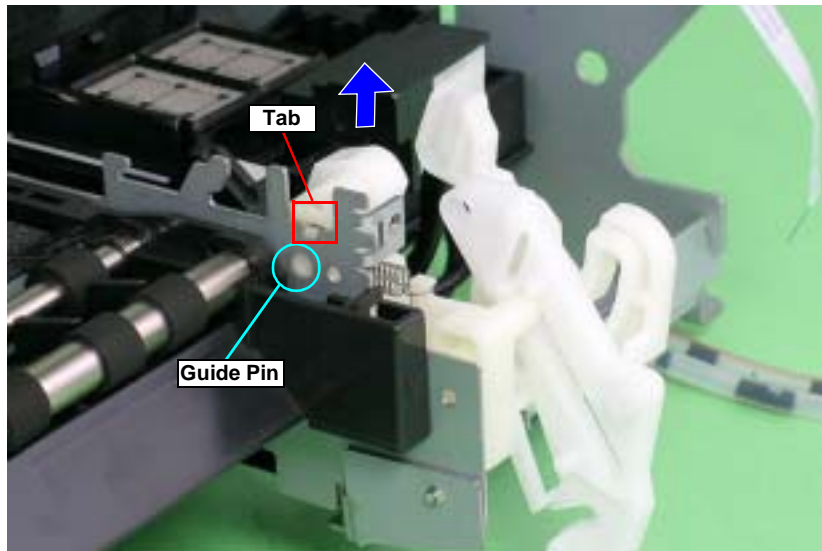

Figure 4-88. Removing the Right CD-R Release Lever Sub Assy (3)
- Align the positioning hole of the Right CD-R Release Lever Sub Assy with the Tab on the Main Frame. See Figure 4-88.